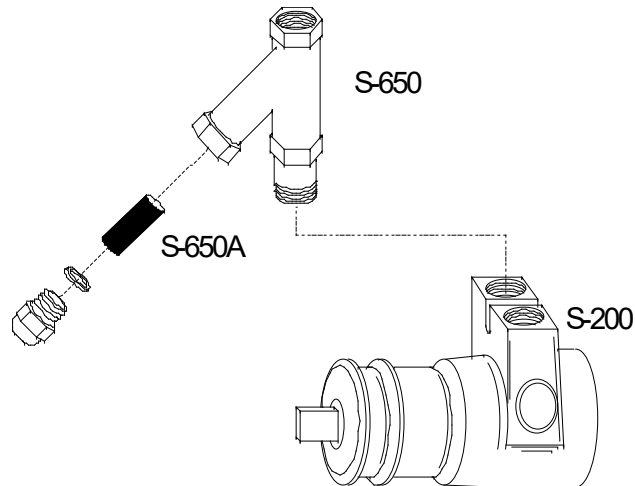

FIGURE 5-1
5. Assemble check valves together as shown in Figure 5-1.